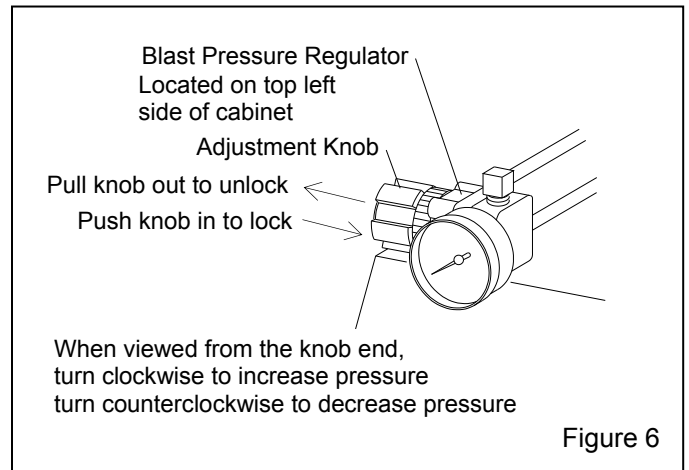

Figure 6
4.1.2 To adjust pressure, unlock the knob by pulling it out as shown in Figure 6, and turn it clockwise to increase pressure or counter-clockwise to decrease pressure. Pressure will usually drop from closed-line pressure when blasting is started. Once operating pressure is set, lock the knob to maintain the setting.